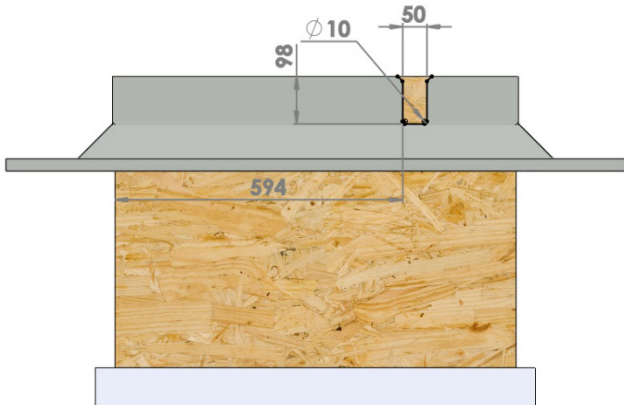

Figure 21 – Upstand cut-out section.
1. Mark out shape as per diagram – *see figure 21.*